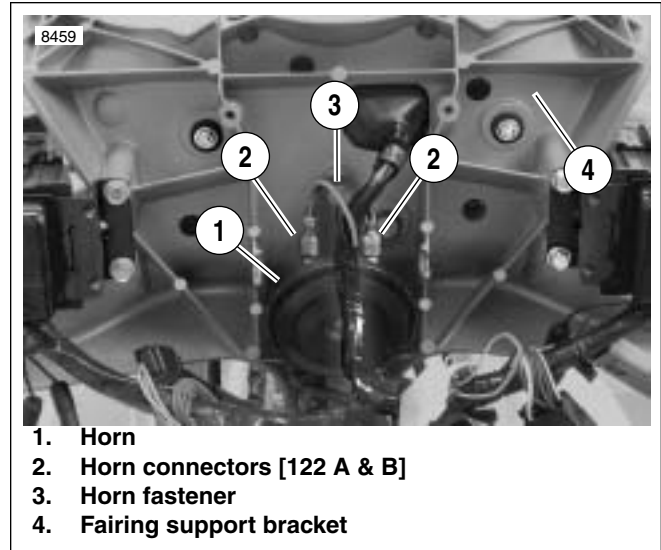
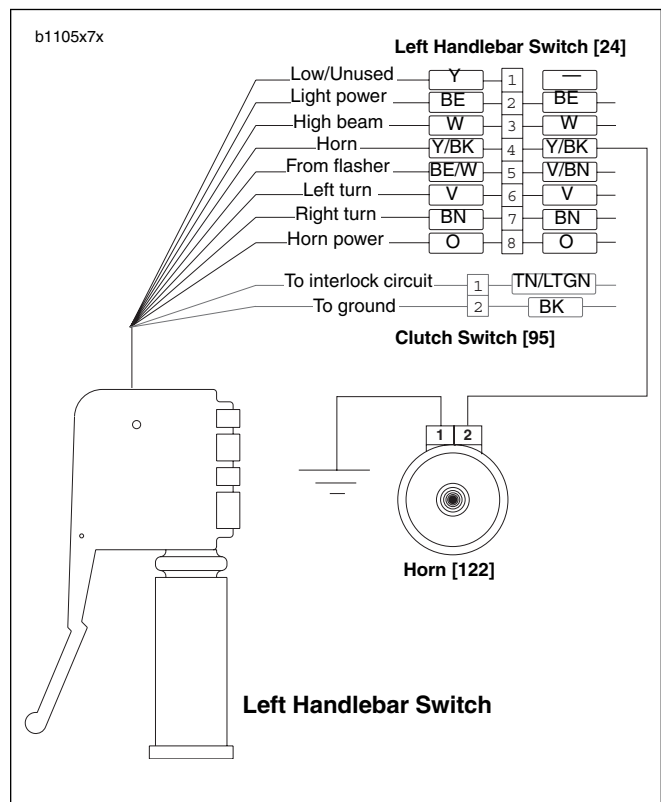

Figure 7-68. Horn Assembly
Figure 7-69. Horn Wiring
4. See Figure 7-68. Remove fastener (3).
5. Remove horn (1) from fairing support bracket (4).
6. See Figure 7-69. Detach Y/BK power wire and BK ground wire from terminal clips on horn.
1. See Figure 7-69. Connect Y/BK power wire and BK ground wire to terminal clips on horn.
2. See Figure 7-68. Attach horn (1) to fairing support bracket (4) using fastener (3). Tighten to 72-96 in-lbs (8.1-10.8 Nm).
- a. See Figure 7-69. Remove Y/BK power and BK ground wires from terminal clips.